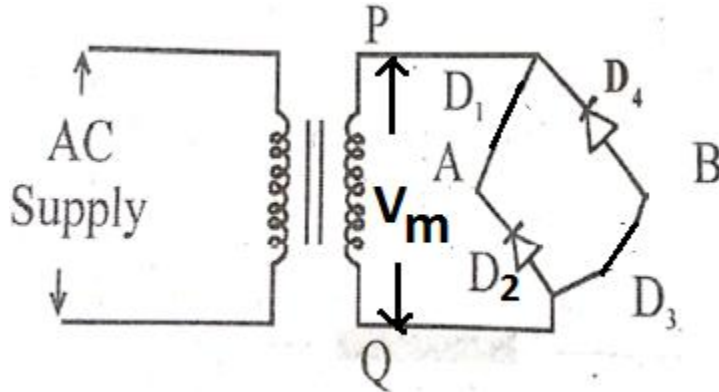

Fig.43
- Referring to Fig.43 it is clear that two reverse biased diodes ( $D_2$  &  $D_4$ ) & secondary of transformer are in parallel.